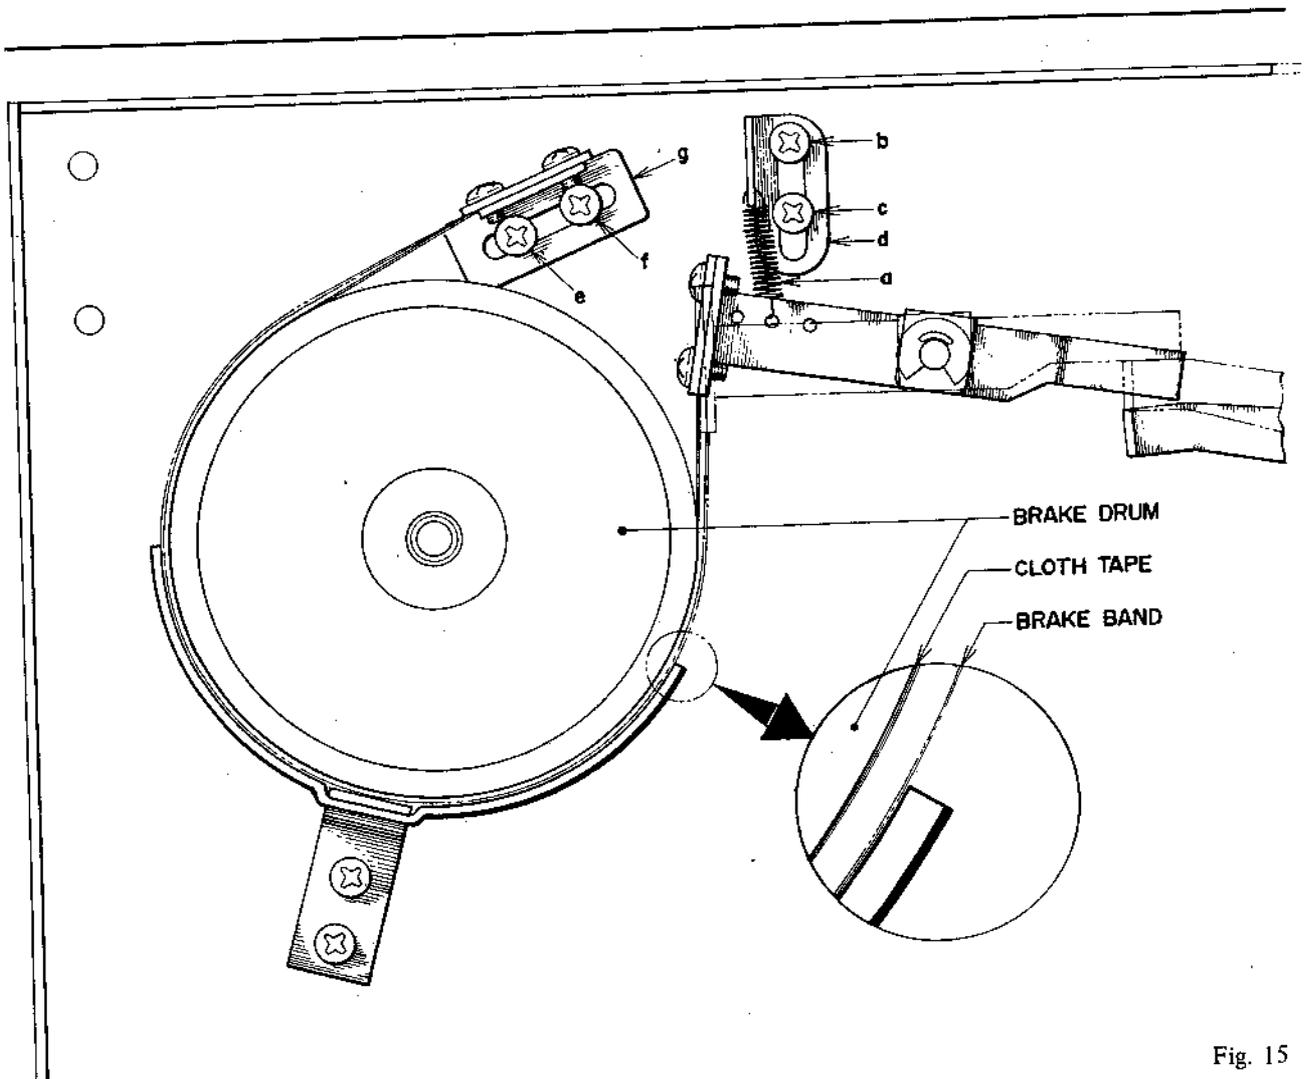

Fig. 15
- 2) Brake tension adjustment can be made as follows: (Refer to Fig. 15)
- d) Only the left side is shown in Fig. 15, but the right side must be adjusted in the same way.
**NOTE:** In making brake tension adjustment, at all modes except stop mode, confirm that the brake band completely separates from the cloth tape on the brake drum. (Refer to Fig. 15)